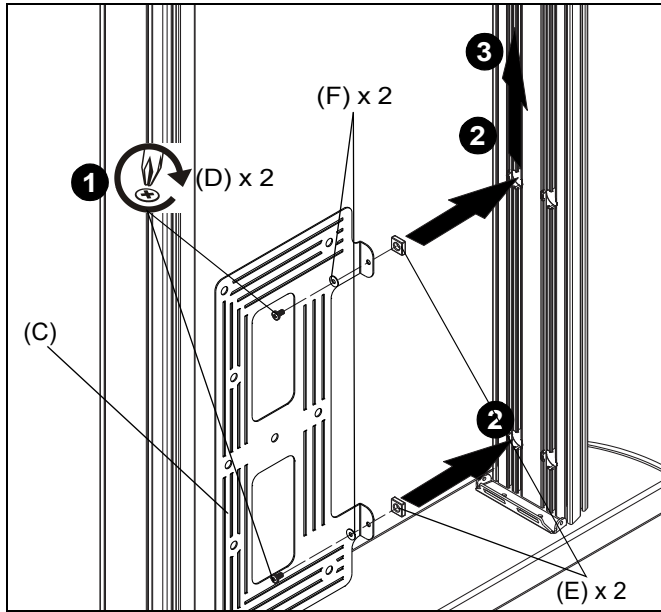

Figure 14
1. Loosely install two #10-24 x 3/8" Phillips head machine screws (D) through two #10 washers (F), holes in component bracket (C) and into two #10-24 square nuts (E). (See Figure 14)
2. Insert two #10-24 square nuts (E) into two openings on column channel. (See Figure 14)
3. Lift component bracket (C) to desired mounting position. (See Figure 14)
4. Tighten screws to a torque force of 10 ft-lbs. (See Figure 14)